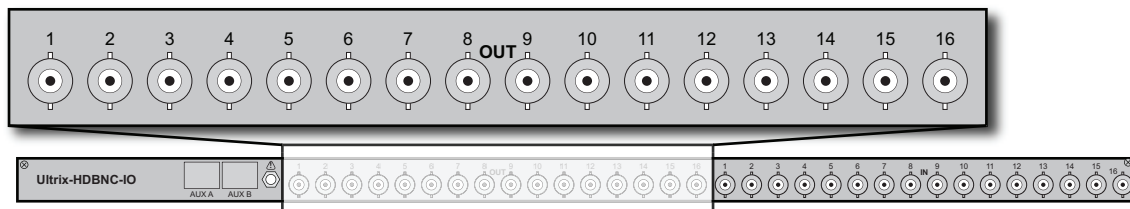

Figure 49 Ultrix Rear Panel — OUT BNC Mapping for an ULTRIX-HDBNC-IO Blade
**Figure 49** outlines the SDI output cabling designations for an ULTRIX-HDBNC-IO blade. The output BNCs are located on the left side of each blade.